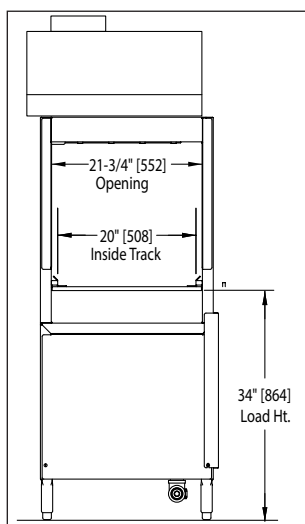

Fig. 14 - Load height.
3. Set the tables inside the machine making sure the table flange fits against the wash tank wall. Attach the tables to the machine applying a silicone sealant to the mating surfaces (see Fig. 14).